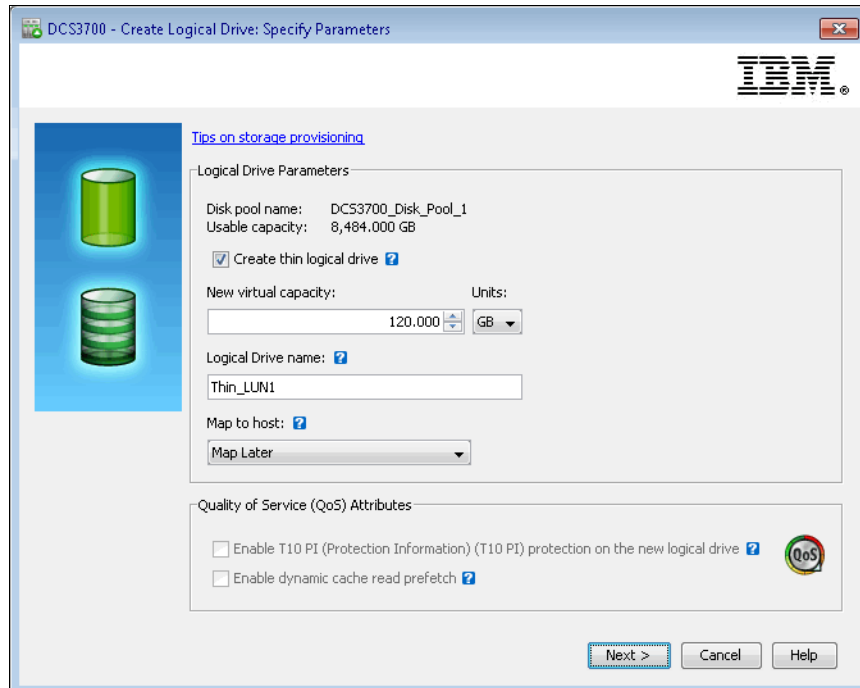

Figure 8-30 Create thin logical drive parameters
2. Select the **Create thin logical drive** check box, as shown in Figure 8-30.